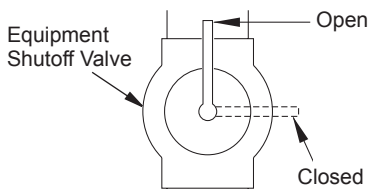

Figure 15 - Equipment Shutoff Valve
1. Close equipment shutoff valve (see Figure 15, page 16).